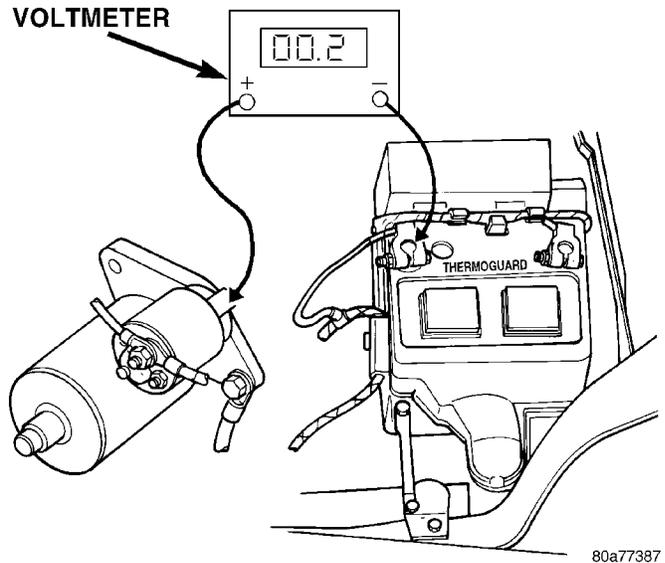

Fig. 4 Test Starter Motor Ground
(3) Connect positive voltmeter lead to the starter motor housing and the negative lead to the battery negative terminal (Fig. 4). Hold the ignition switch key in the START position. If voltage reads above 0.2 volt, correct poor starter to engine ground.